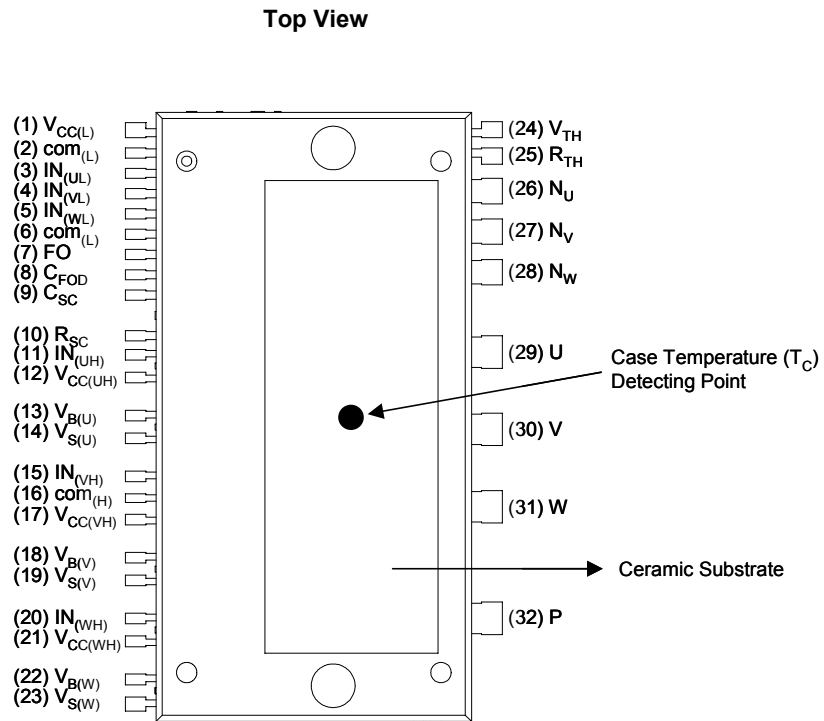

Fig. 2.
- For the measurement point of case temperature(T_C), please refer to Fig. 2.